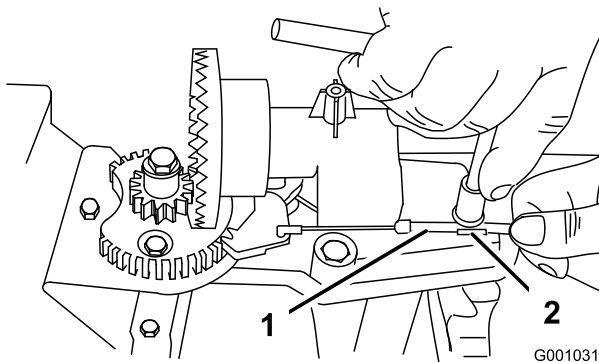
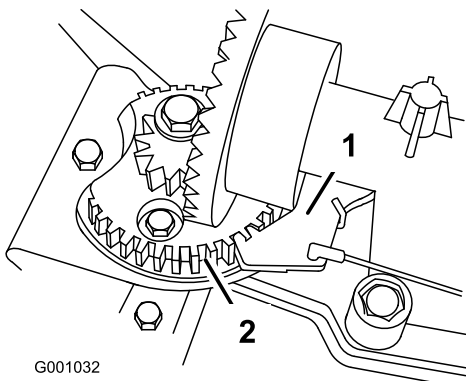

Figure 53
Figure 54
2. Loosen the bolt on the cable clamp (Figure 53).
3. Grasp the cable conduit and move it toward the front of the machine until the discharge chute latch fully engages the gear teeth (Figure 53 and Figure 54).
Note: The latch is spring loaded and will naturally move into the teeth of the gear (Figure 54).